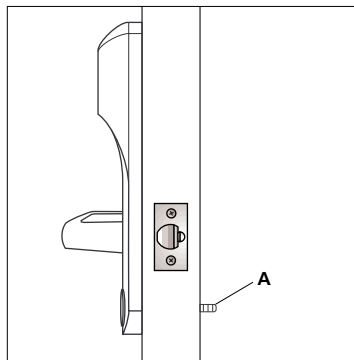

Figure 6
- 2) The override cylinder connecting bar (A) should extend $\frac{3}{8}$ " (3mm) from the inside surface of the door (see Figure 6). If necessary, measure and mark the connecting bar accordingly.